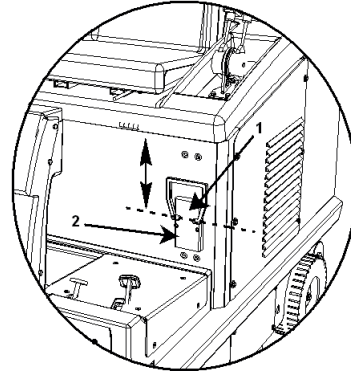

Fig. 13/B
2. Make sure the connector **Part. 1 Fig. 13** is well inserted in the socket **Part. 2 Fig. 13**.